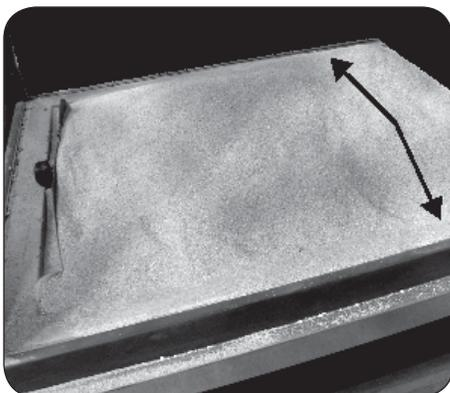

Fig. 9-1
1. With the burner off, fill the burner pans completely with sand (PARTS LIST, Item #10). Slope the sand at the same angle as the burner pan (see Fig. 9-1).